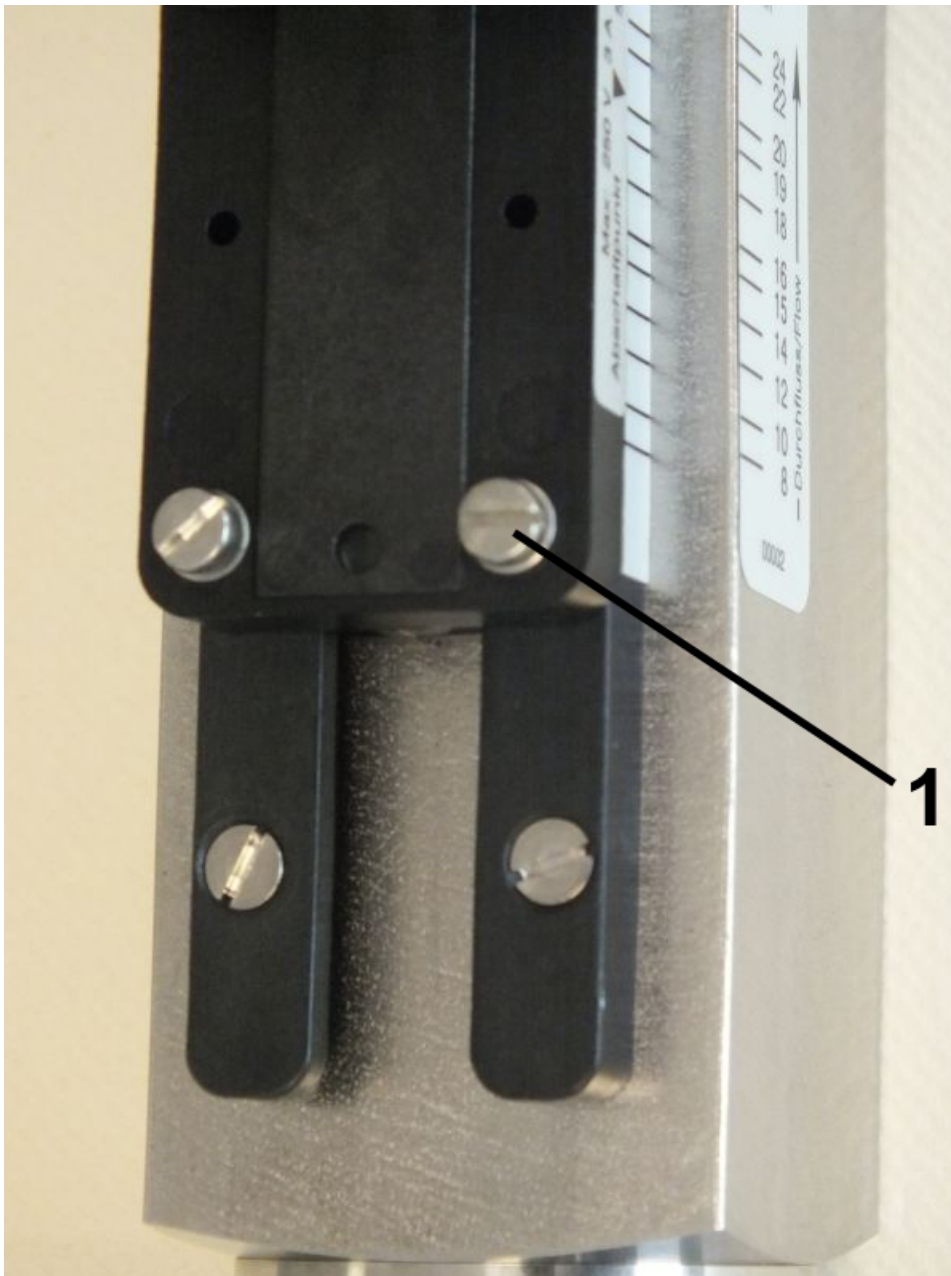

Fig. 39: Loosen set screws
1. Loosen the set screws of the switch contact (Fig. 39/1) using a flat-bladed screwdriver.
3. Tighten the set screws of the switch contact (Fig. 39/1) using a flat-bladed screwdriver. When doing so, observe the correct tightening torque of the screws.